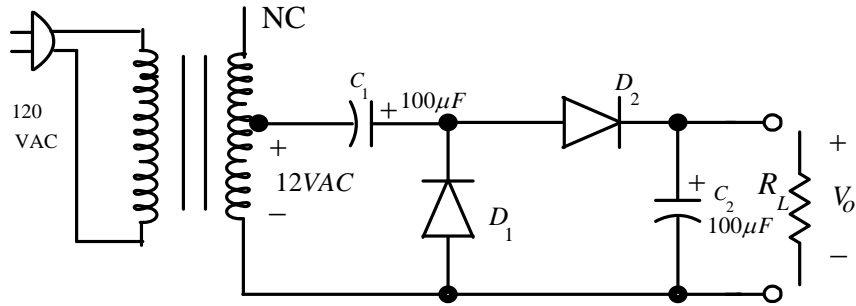

Fig. 7. A half-wave voltage doubler test circuit.
8. Next, consider the half-wave voltage doubler of Fig. 7. Determine the voltage ratings required for the capacitors and select suitable capacitors from the lab stock. Construct the circuit and carefully check your connections. Be careful since the voltages you are dealing with are potentially hazardous.